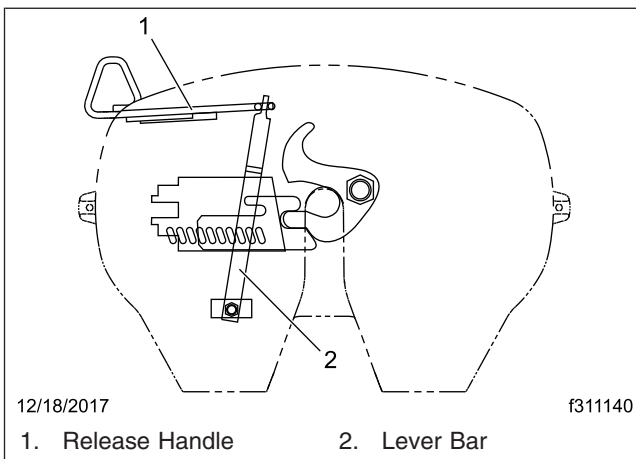

Fig. 2, Lever Bar and Release Handle Alignment
5. The lever bar and release handle must be in proper alignment. See **Fig. 2**. Compare the lever bar and release handle alignment to a new, or a properly operating lever bar and release handle. Replace any bent or misaligned lever bar or release handle.